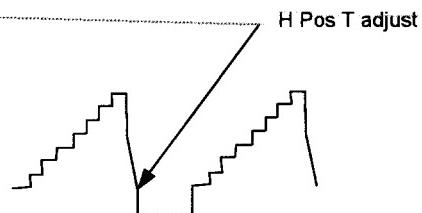

Fig. 2
- (6) Adjust **HPOS Timing T** to align the rear edge of the video signal (greyscale) with the front edge of the adjusted blanking W (Fig. 2).